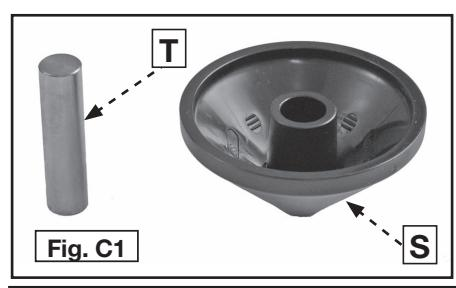

Fig. C1
If you need to adjust, change, or replace the subbase, a centering tool is provided to help center the base during re-installation. The centering tool consists of a cone (S) Fig. C1 and a pin (T). To adjust the subbase, follow the steps below.
1. With motor clamped into the base, insert the pin (T) Fig. C1 into the collet and tighten the collet nut.